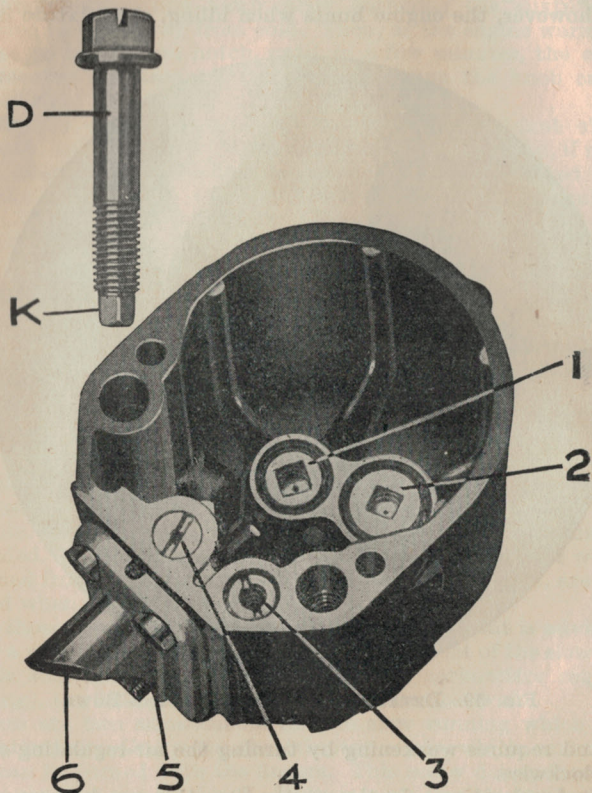

FIG. 60. THE CARBURETTOR BOWL
The float chamber contains the main jet (1), Fig. 60, compensating jet (2), compensating well (3), and slow running jet (4). The
Slow-running Adjustment is Too Weak. Try the slow-running screw in a richer position. The compensating jet 2 (Fig. 60) may be too small. Try one size larger.